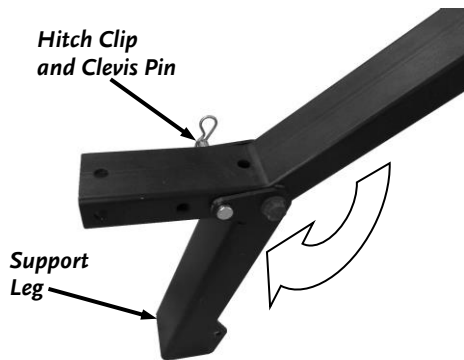

Figure 5
3. Pull the Hitch Clip and Clevis Pin from the Leg and fold it to the down position. Align the holes and secure the Leg with the Clevis Pin and Hitch Clip (**Figure 5**).